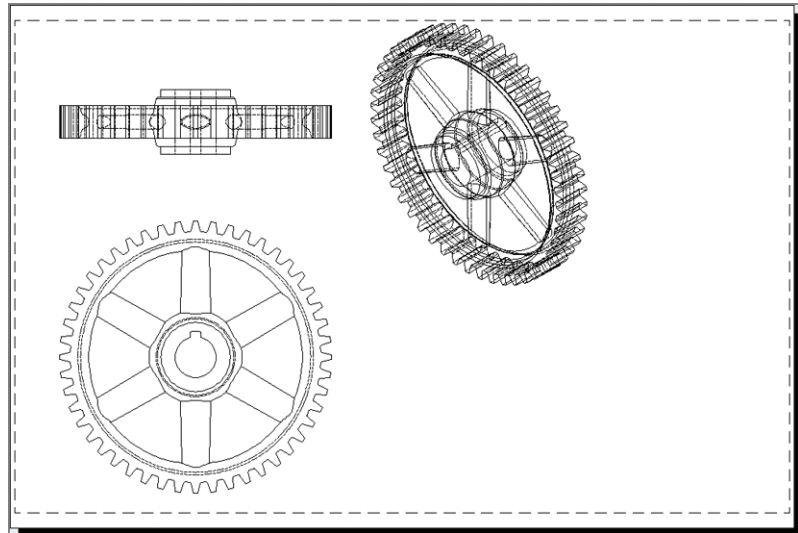

FIGURE 18.22 Locating projected views of the base drawing on the layout
8. Click a third point at a 45-degree angle with respect to the base plan to locate an isometric projection, and press Enter to end the command. The drawings display in wireframe view showing hidden lines with a dashed linetype (see Figure 18.22).